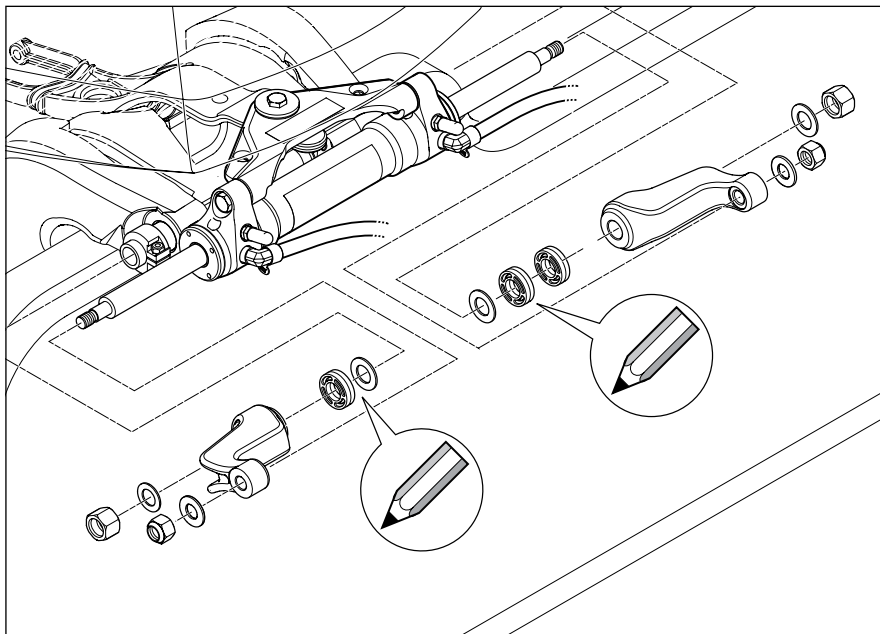

Figure 3.
- Note location of ALL spacers on your current set up (refer to Figure 3).